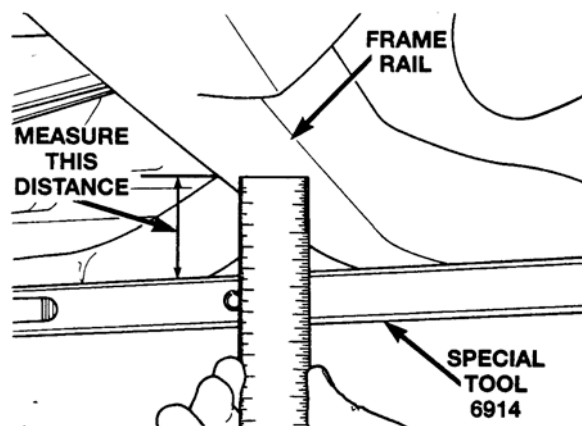

Figure 15
c. Check the distance from the bottom of each of the **rear** frame rails to the top surface of the Vehicle Height Checking Fixture (Special Tool #6914) (Figure 15). The distance should be **2 ½ inches  $\pm$  ¼ inch (64 mm  $\pm$  6 mm)**.